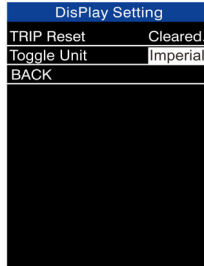

Figure 5
5. Press the [-] button to switch from "Metric" to "Imperial", and press the [i] button to confirm (Figure 5).